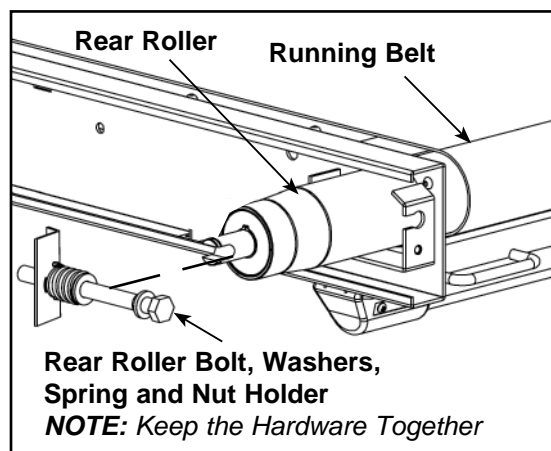

Figure 6
- A. Using a 3/4" open end or socket wrench, loosen the two rear roller bolts (one roller bolt on each side). **NOTE:** Loosen each bolt evenly, making sure not to loosen either bolt too many turns before moving to the other bolt. See Figure 6.
- B. While holding the rear roller, remove the hardware from each side. **NOTE:** Pivot the bolt, washers, spring and nut holder out together. See Figure 6.
- C. Lift one side of the rear roller and slide the roller out of the running belt. See Figure 6.
- A. Slide the rear roller into the running belt. See Figure 6.